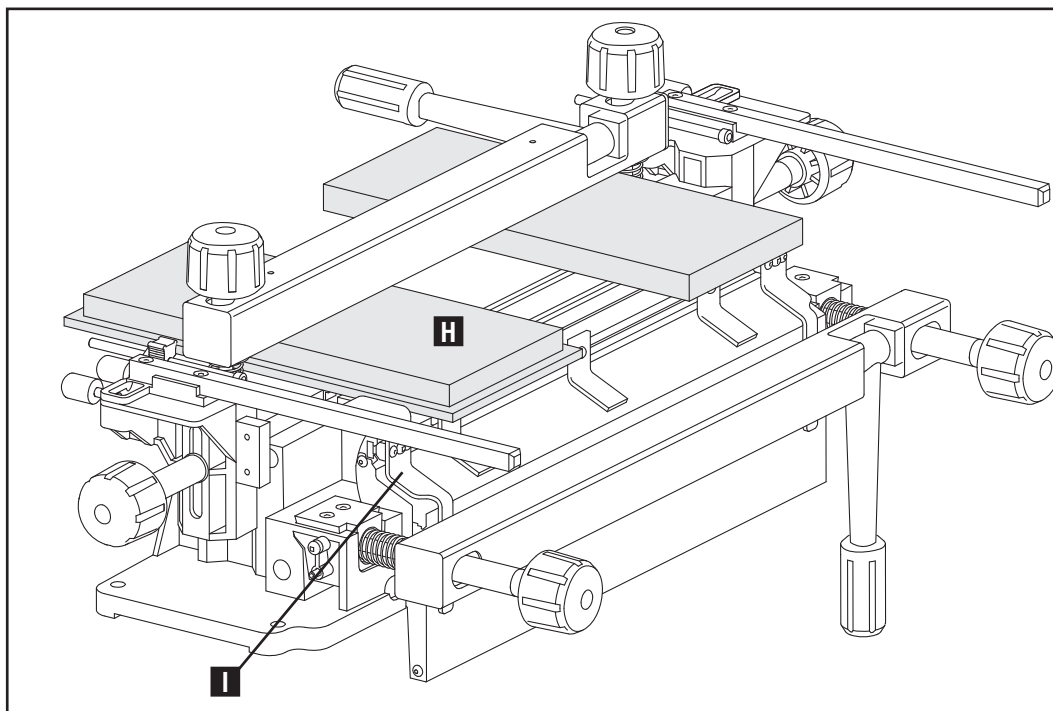

Fig. G4
1. Clamp the rabbeted pin board (drawer front) (H) Fig. G4 in the horizontal position with the “outside surface” against the jig’s base. Make sure board is flush with the edge guide (I).